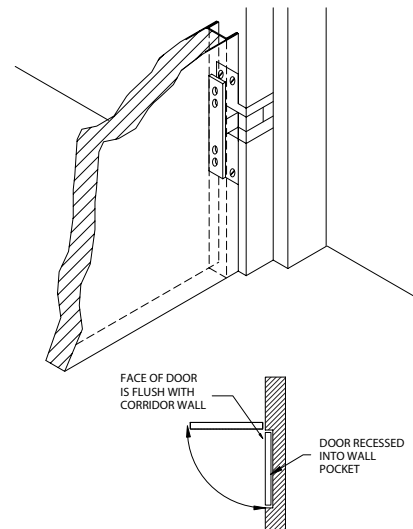

FIGURE 6c
3. Pocket Pivot, Figure 6c, Frame leaves are fully mortised and door leaves are semi-concealed, which allows a wider clear opening width than conventional hinges.